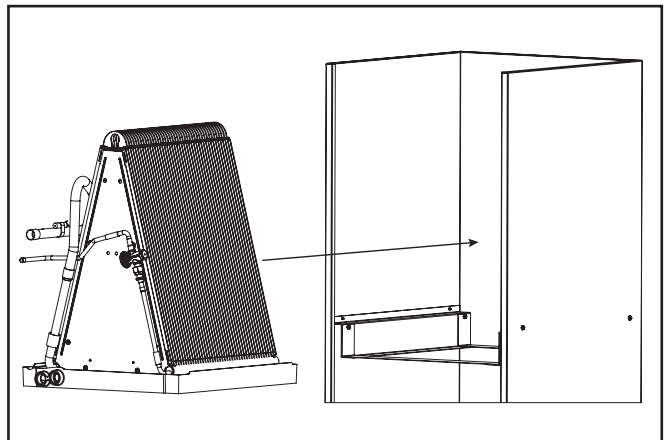

Figure 4.
3. Slide the indoor coil into the air handler, and make sure it sits on the top of brackets (Figures 4 & 5).